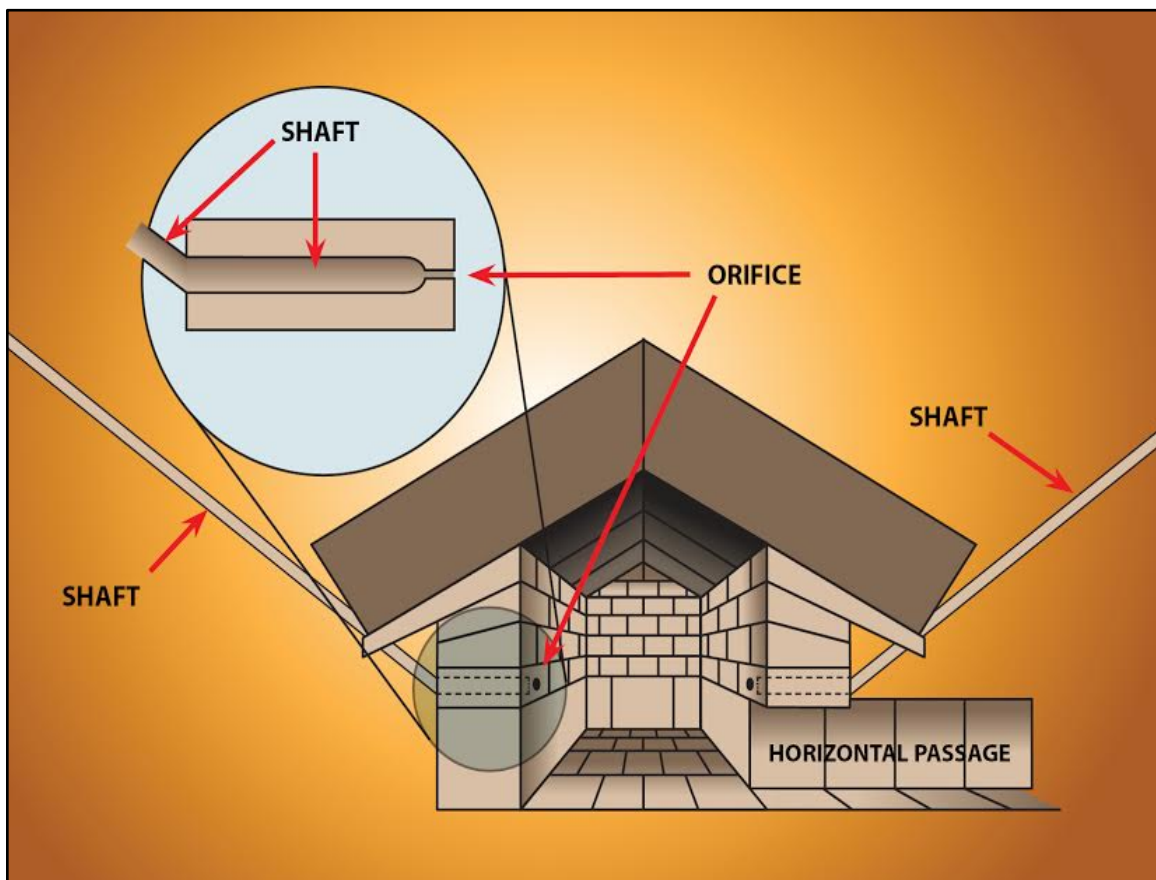

Figure 15. Queen's Chamber
- Figure 15 illustrates the Southern Shaft entering the chamber by way of a *pre-determined orifice* that metered the correct amount of hydrochloric acid into the chamber. The same type of orifice was also discovered entering the Queen's Chamber from the Northern Shaft. Remaining corrosion, discolorations, and stains supports the premise that the Southern Shaft was used for a dilute solution of hydrochloric acid and the Northern Shaft was used for the hydrated zinc chloride solution